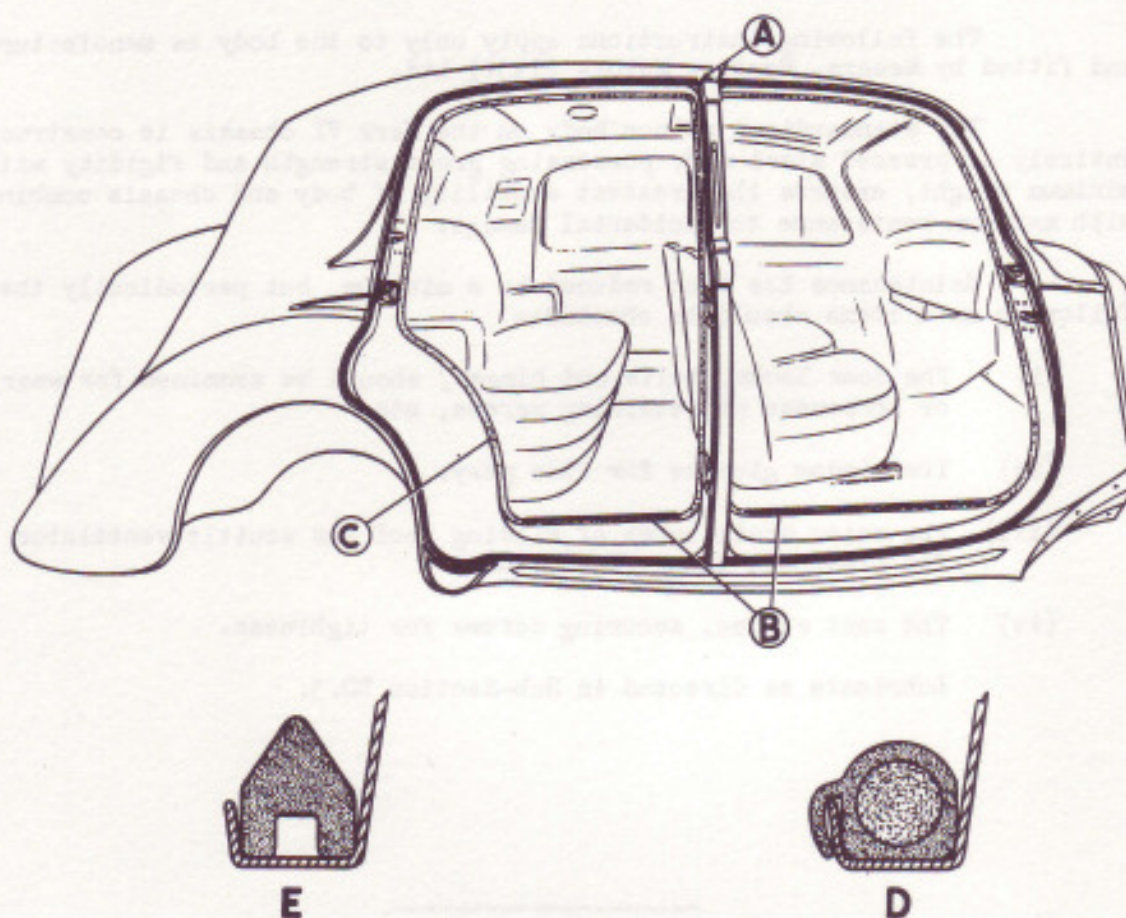
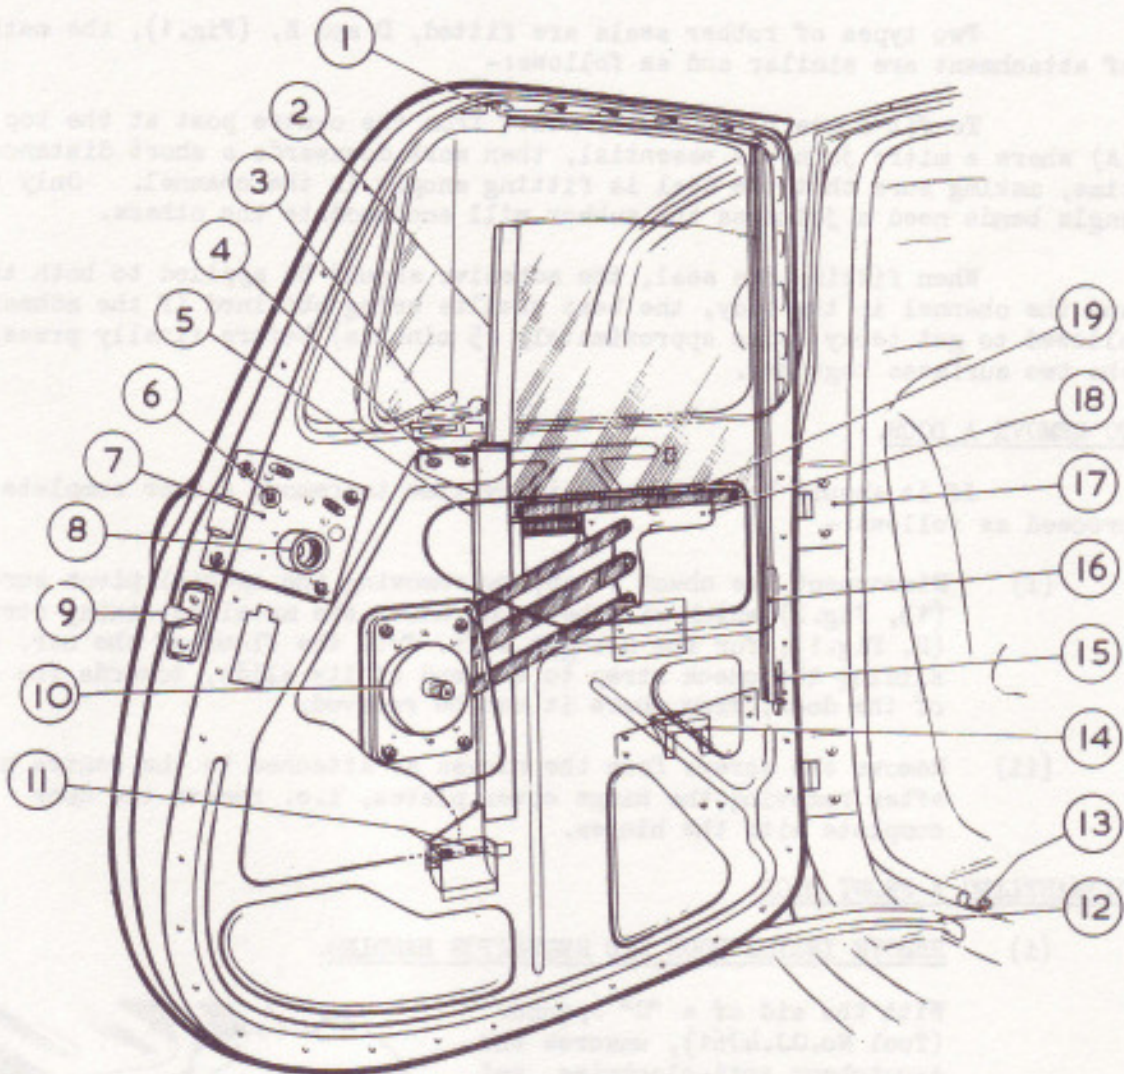

FIG. 1. DOOR SEALS.
FIG. 2. FRONT DOOR.
There must be no metal to metal contact between the door and door frame, except at the hinges and lock bolt. The rubber draught seal, which is fitted around the door frame, (Fig.1), should be a snug fit against the door at all points.
Two types of rubber seals are fitted, D and E, (Fig.1), the methods of attachment are similar and as follows:-
- (i) Disconnect the check strap, by removing the special pivot screw (13, Fig.2) which will be found under the metal retaining strip (B, Fig.1), for the draught welt, from the floor of the car, and sliding the check strap to the end of its slide, towards the centre of the door, from where it can be removed.
- (b) Remove screw (6, Fig.2), from handle shank.
- (a) Remove front lower glass run-channel, by extracting the four screws (4 and 11, Fig.2), two at the top and two in pocket near bottom of door.
- (b) Remove the four retaining screws of the window regulator (3, Fig.2).
Check alignment of unit with glass run, if it is found that increased pressure is required at the bottom of the glass, it is recommended that the ball carrier arm (18, Fig.2), should be given a small set at each end to increase this pressure.
Check the glass for slackness in the rear glass run-channel (16, Fig.2).
Examine the bottom hook for breakage (15, Fig.2), in such case, dismantle the run-channel by pulling away the interior backing felt and removing the fixing screws, and lifting channel out of door.